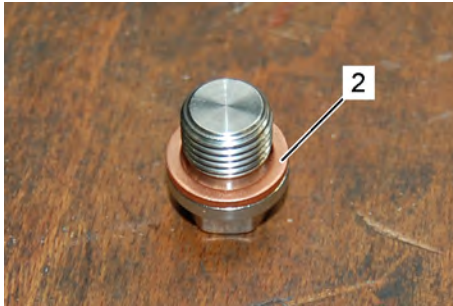

Fig. 82
- Drain oil, remove water from oil and refill or add new oil. Close oil drain opening with new annealed copper seal (Fig. 82/2).